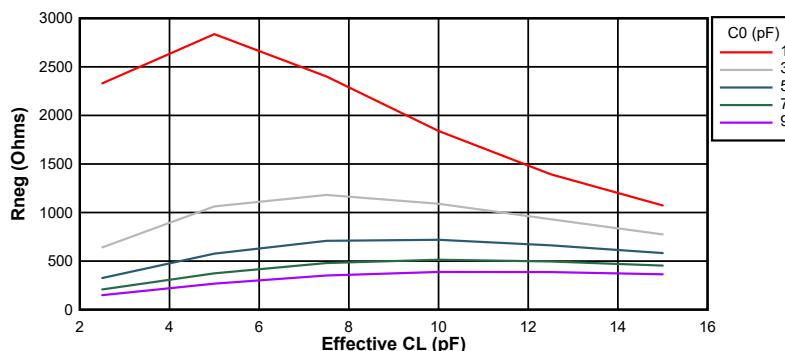
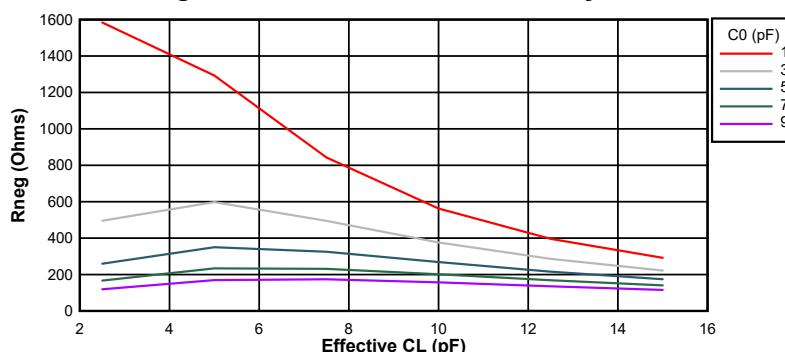

Figure 6-15. Negative Resistance Variation at 10MHz
Figure 6-16. Negative Resistance Variation at 20MHz
Figure 6-15 and Figure 6-16 show the variation between negative resistance and the crystal components for this device. As can be seen from the chart, the crystal shunt capacitance (C_0) and effective load capacitance (CL) greatly influence the negative resistance of the electrical oscillator. Note that these are typical graphs so refer to Table 6-5 for min/max values for design considerations.